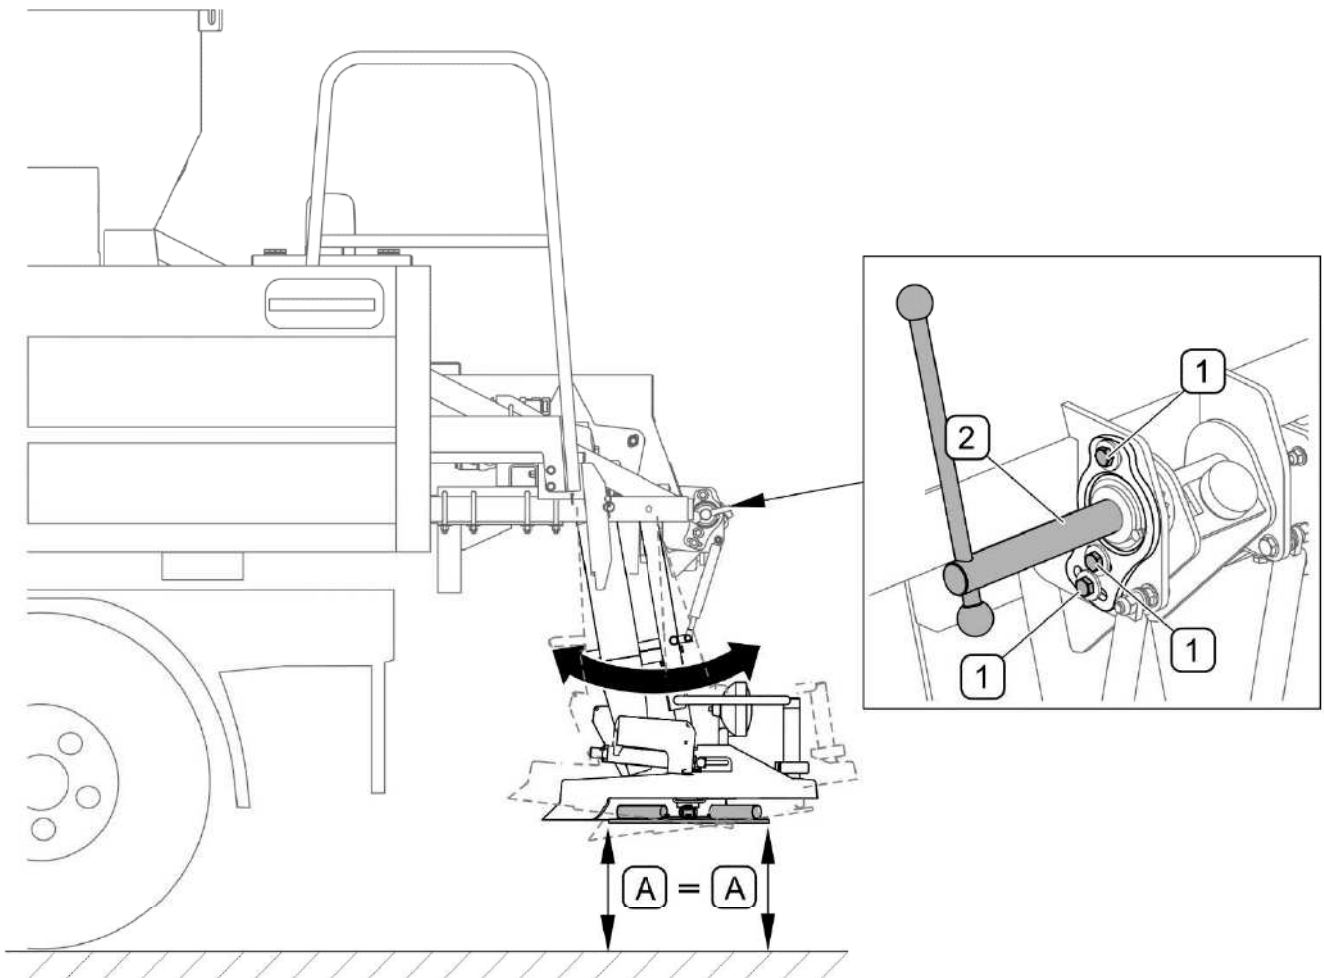

FIG. 4.12 **Levelling the spreading disc**
(1) - M10x35 bolt; (2) - clamp bolt
During operation, the spreading disc should be levelled. To check that the spreading disc is level, measure the distances between the disc and the ground in two extreme points (A) to confirm that the distances are the same (FIG. 4.12). Otherwise, make adjustment as follows:
- check that clamp bolt (2) is tightened,
- loosen three bolts (1),
- shift the spreading mechanism forwards or backwards in order to set the spreading disc in such a manner that distances (A) are the same,
- tighten bolts (1).